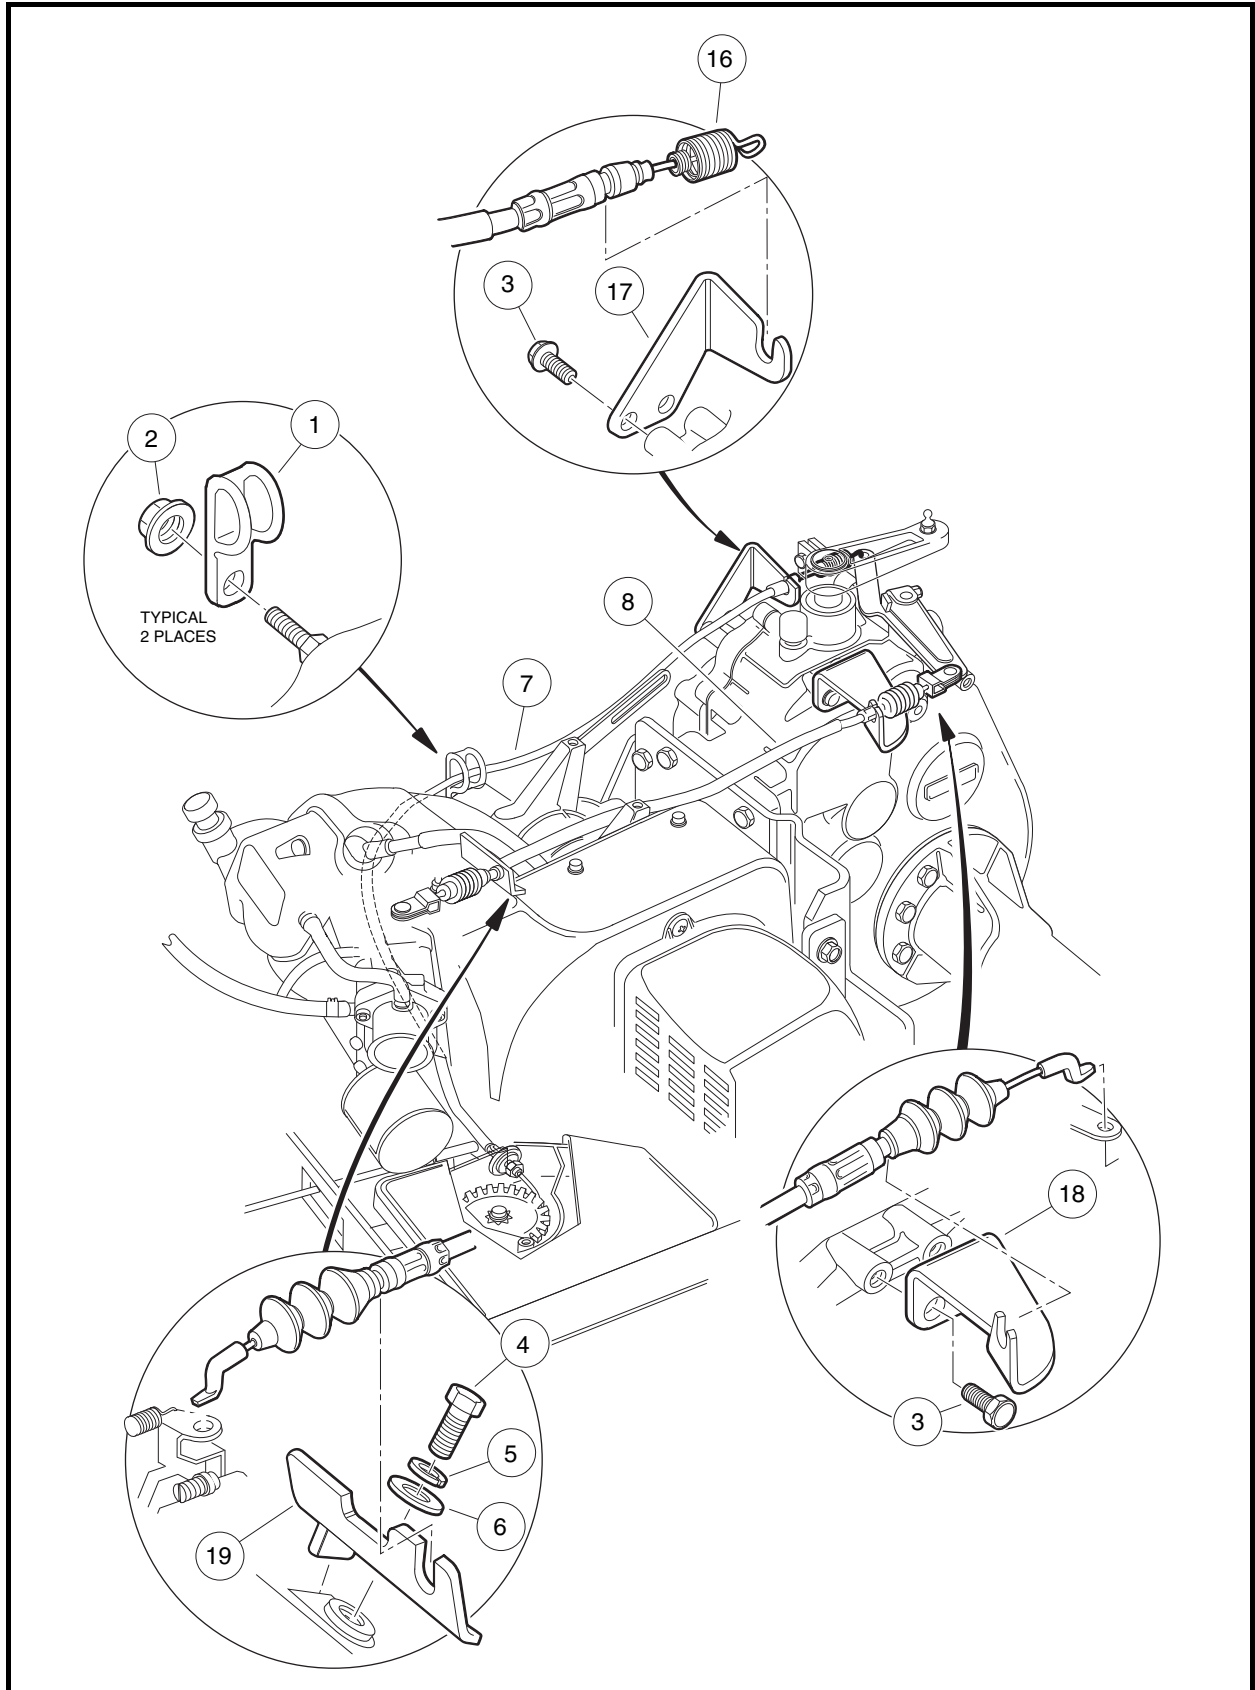

Figure 14-8 Governor and Accelerator Cables
2. Remove the governor cable (8) from the engine bracket (19) and lift the Z-shaped cable end from the carburetor throttle bracket (**Figure 14-8, Page 14-11**).
3. Remove the cable from engine bracket (18) and lift the Z-shaped cable end from the governor bracket.
1. Install the Z-shaped end into the governor bracket (18) and push cable down into bracket slot to secure. Be sure the bellows dust shield is attached (**Figure 14-8, Page 14-11**).
2. Install the Z-shaped end into carburetor throttle and push cable down into bracket (19) slot to secure. Be sure the bellows dust shield is attached.
6. Remove the accelerator cable (7) from the engine bracket (17) and lift the Z-shaped cable end from the bracket (**Figure 14-8, Page 14-11**).
7. Disconnect the spring (16) from the engine governor arm by rotating the arm counterclockwise one-half turn. Remove the cable assembly from the vehicle.
1. Connect the accelerator cable (7) to the cam in the electrical box (**Figure 14-8, Page 14-11**).
3. Connect the spring (16) to the engine governor arm (**Figure 14-8, Page 14-11**).
4. Install cable (7) in accelerator cable bracket (17) and push down to snap into bracket slot to secure.